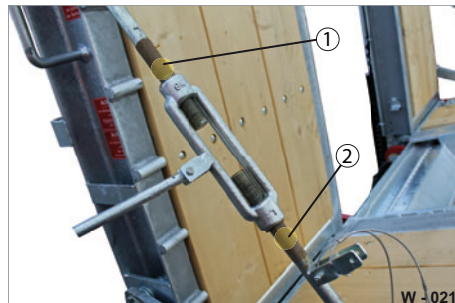

Fig. 20 Lubricating turnbuckle
- ▶ Lubricate the threaded rod (Fig. 20/1,2) with machine lubricant.